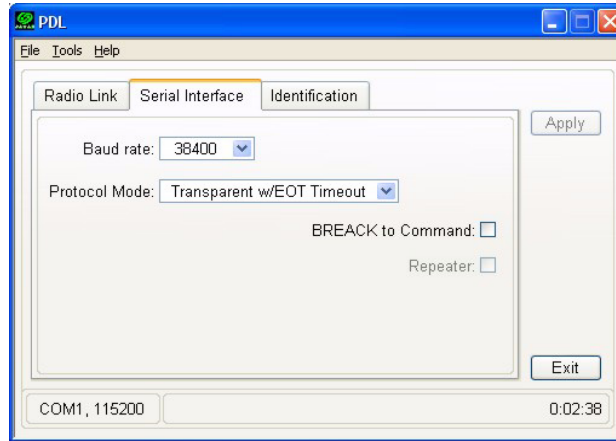

Figure 2-32. PDL Serial Interface Tab
7. Click the **Serial Interface** tab and select the following parameters (Figure 2-32 on page 71):